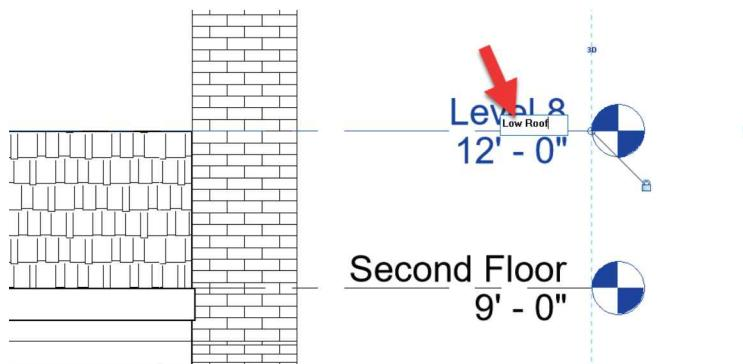

FIGURE 8-3.3 South elevation; renaming a level datum
9. Change the label to ***Low Roof*** (Figure 8-3.3).